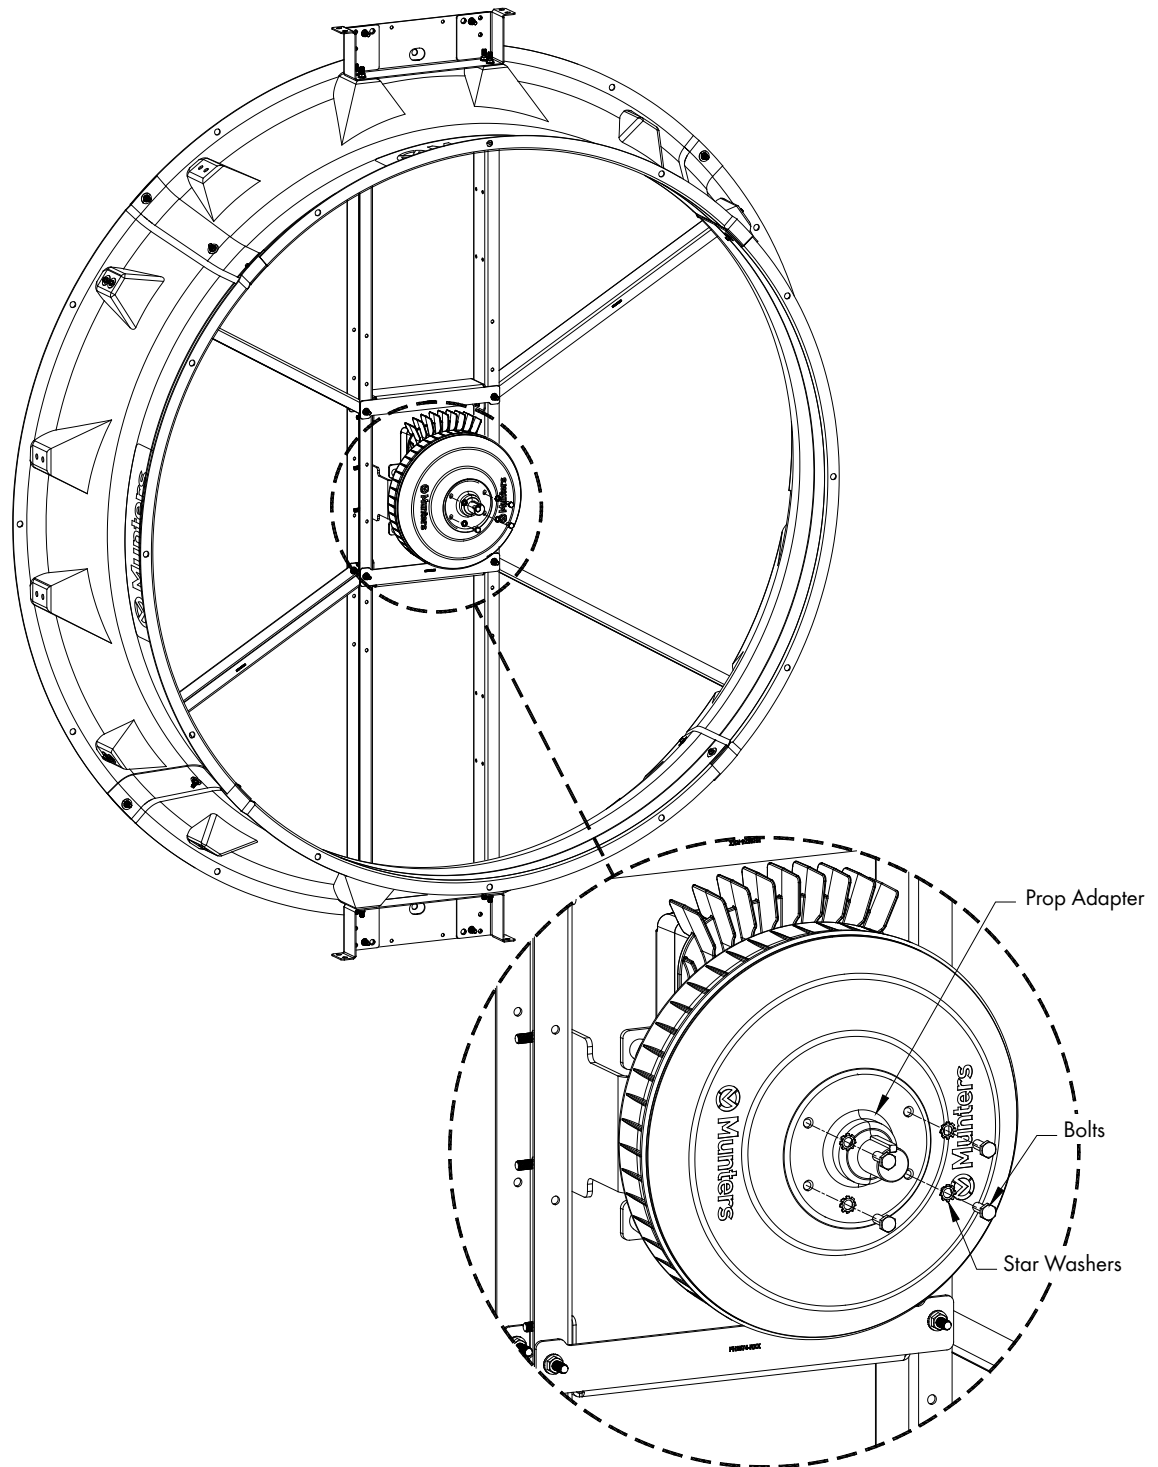

Figure 16
Remove the (4) Bolts and Star Washers holding the Prop Adapter to the Motor. Save the Prop Adapter for reuse later, but discard the existing bolts and washers. See Figure 16.